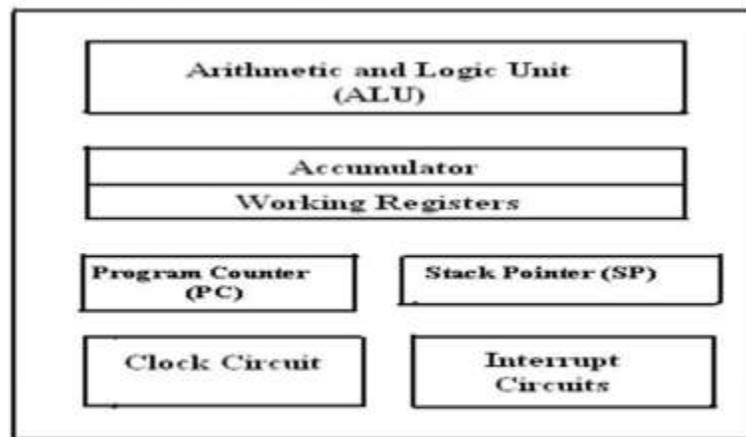

Fig.1 Block diagram of a Microprocessor.
Microprocessor: A CPU built into a single VLSI chip is called a microprocessor. It is a general-purpose device and additional external circuitry are added to make it a microcomputer. The microprocessor contains arithmetic and logic unit (ALU), Instruction decoder and control unit, Instruction register, Program counter (PC), clock circuit (internal or external), reset circuit (internal or external) and registers. But the microprocessor has no on chip I/O Ports, Timers, Memory etc. For example, Intel 8085 is an 8-bit microprocessor and Intel 8086/8088 a 16-bit microprocessor. The block diagram of the Microprocessor is shown in Fig.1